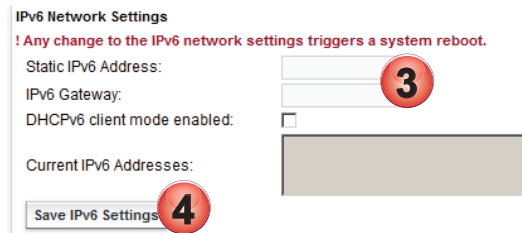

Figure 5-8: Enter IPv6 Address
3. Enter the static IPv6 address and gateway, Figure 5-8.